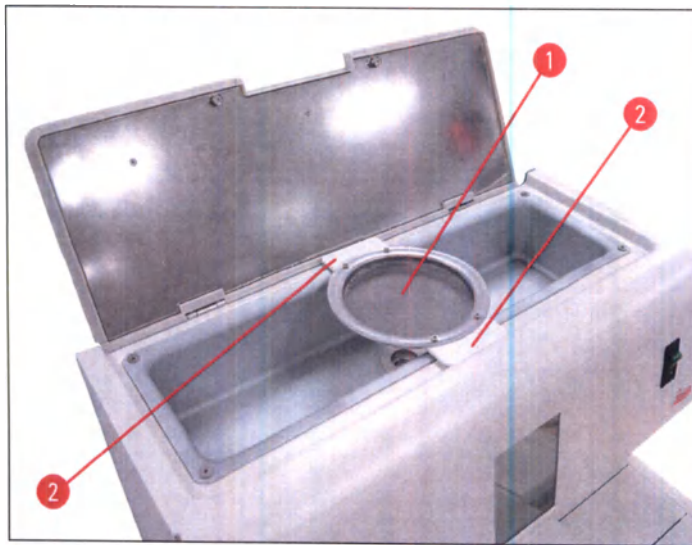

Fig. 43
- Place the pre-filter cup (→ Fig. 43-1) on the paraffin tank (→ Fig. 43).